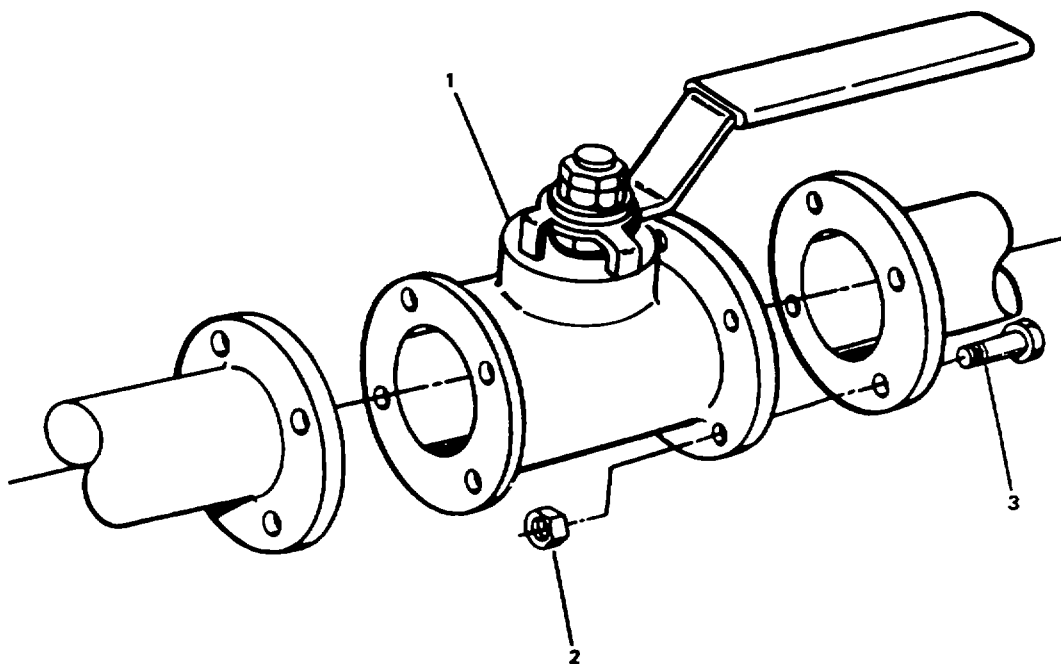

Figure 2-86. Replace Two-Way Ball Valve (Flange).
- a. Place utility pail under valve (1, Figure 2-86).
- b. Remove nuts (2) from bolts (3).